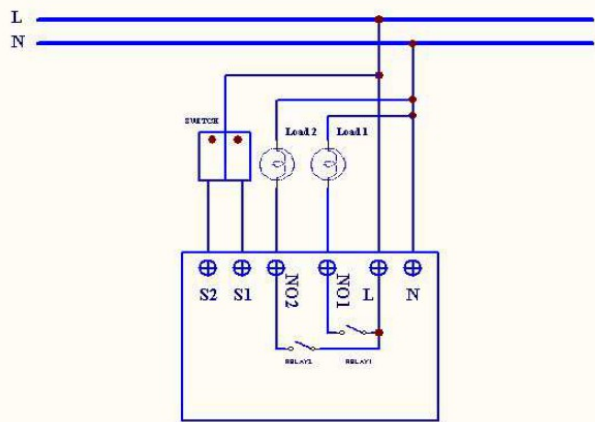

Fig 1. Assembling
2. Connect the wall switch to the PAN04 as Fig1 .